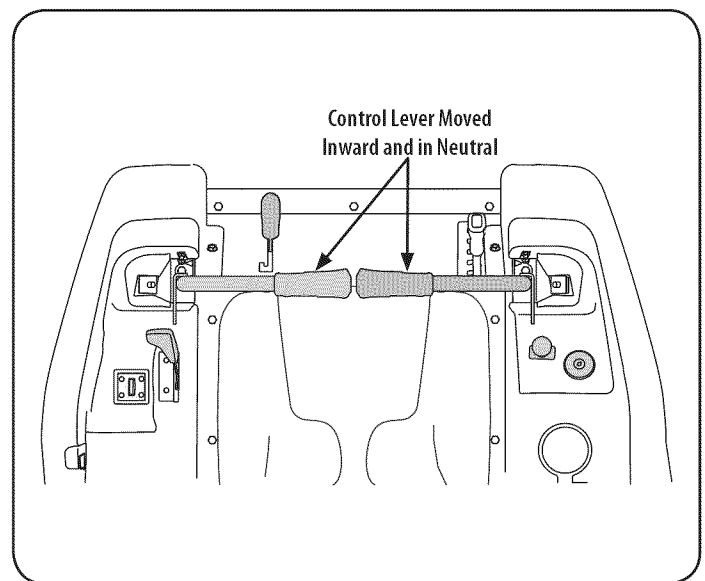

Figure 14
3. Move the RH and LH drive control levers inward in the neutral position. Refer to Figure 14.